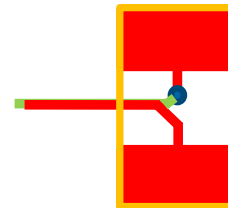

FIGURE 78. RECOMMENDED LAYOUT PATTERN FOR CURRENT SENSE TRACES REGULATOR
12. The current sensing traces must be laid out very carefully because they carry tiny signals with only tens of mV. For the current sensing traces close to the power sense resistor (RSENx), the layout pattern shown in Figure 78 is recommended. Assuming the RSENx is placed in the top layer (red), route one current sense connection from the middle of one RSENx pad in the top layer under the resistor (red trace). For the other current-sensing trace, from the middle of the other pad on RSENx in top layer, after a short distance, via down to the second layer and route this trace right under the top layer current sense trace.